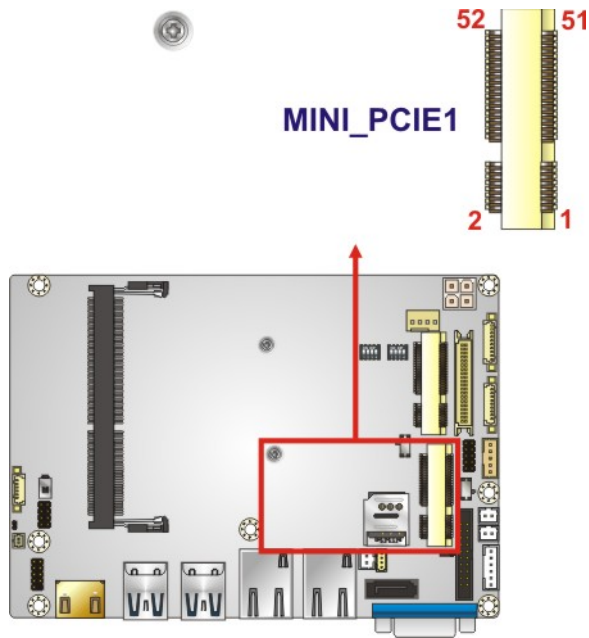

Figure 3-12: PCIe Mini Card Slot (with SIM Card Socket) Location
- CN Location:** See **Figure 3-12**